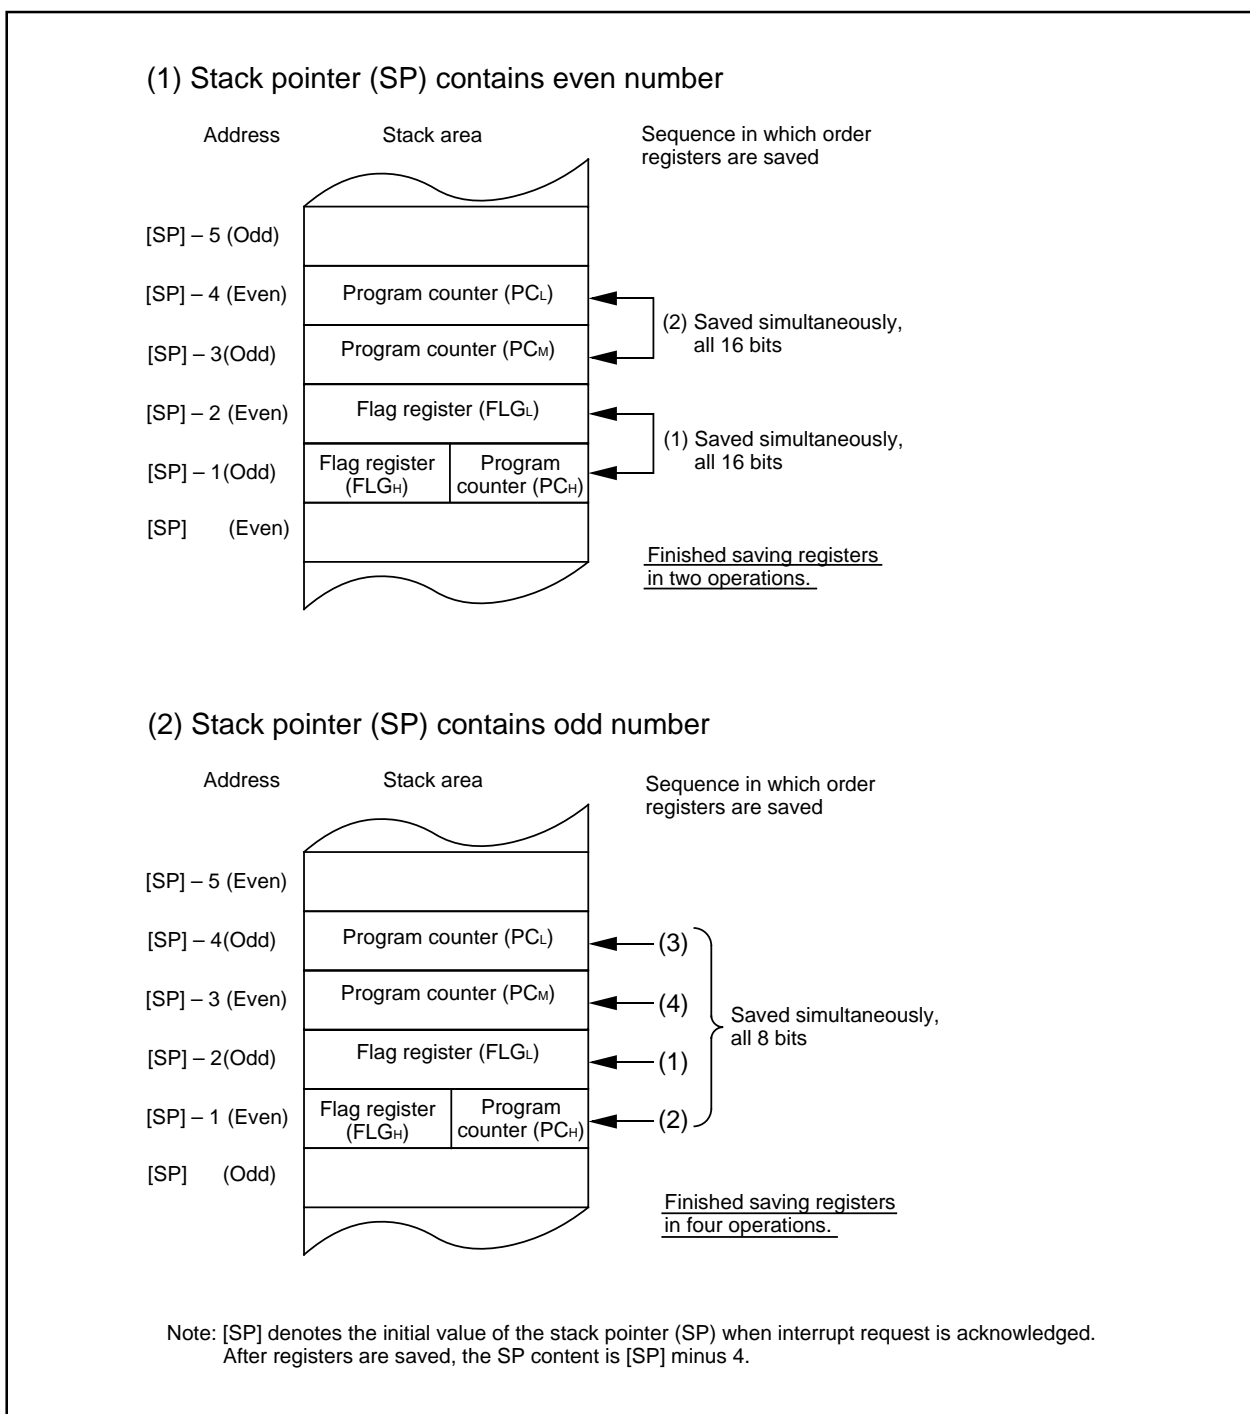

Figure 1.11.7. Operation of saving registers
The operation of saving registers carried out in the interrupt sequence is dependent on whether the content of the stack pointer, at the time of acceptance of an interrupt request, is even or odd. If the content of the stack pointer (Note) is even, the content of the flag register (FLG) and the content of the program counter (PC) are saved, 16 bits at a time. If odd, their contents are saved in two steps, 8 bits at a time. Figure 1.11.7 shows the operation of the saving registers.